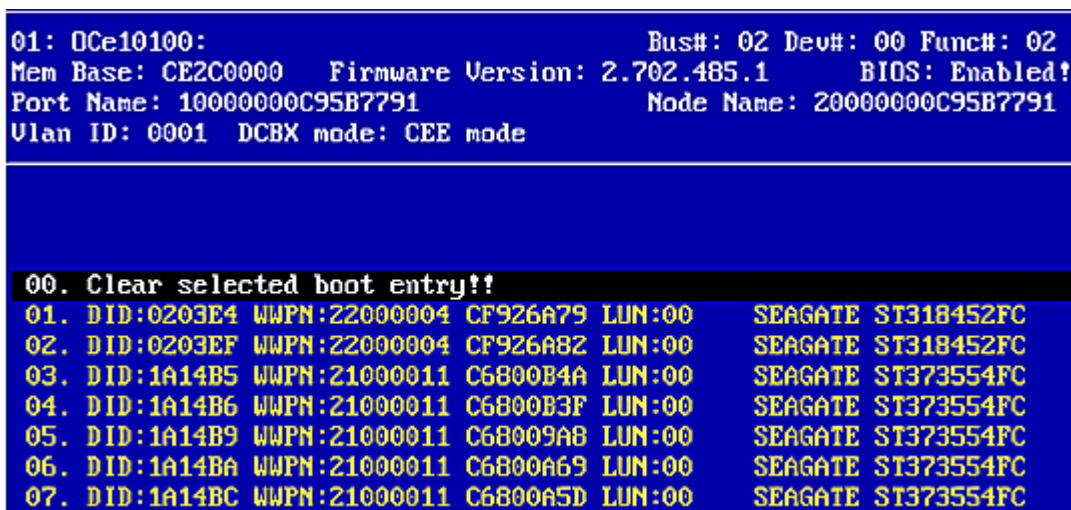

Figure 5-6 Device Selection List Example (Array) Screen
2. Select a boot entry and press **<Enter>**. A screen similar to Figure 5-6 is displayed.